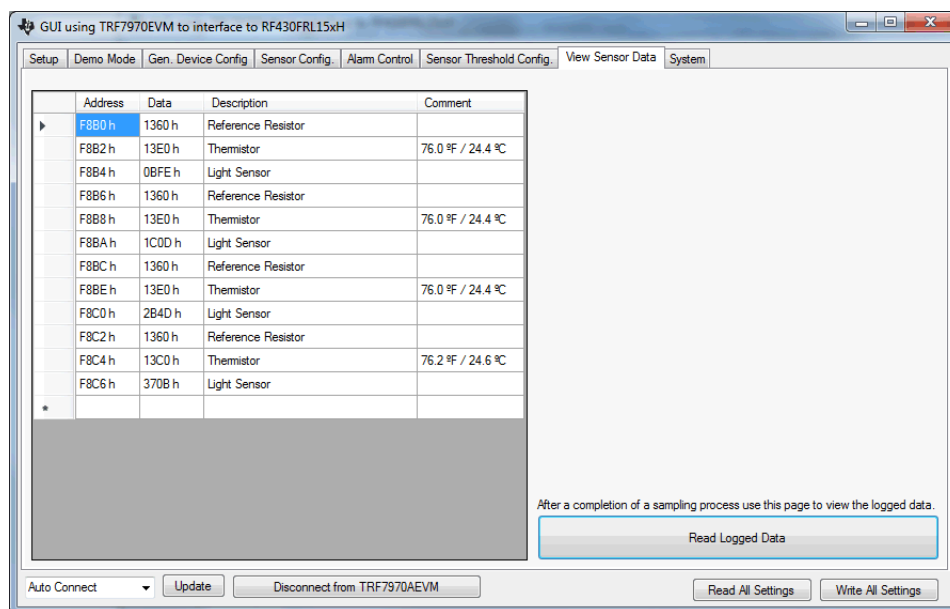

Figure 20. Custom View Data
16. When data is available, go to the "View Sensor Data" tab and click the "Read Logged Data" button. The GUI reads the logged data from the EVM and displays it (see Figure 20). This logged data is not designed to be human-readable. However, one use case of this function is to show the correlation and order of data to the sensor that took that data. In the logged data memory, the sensor that took that sample is not given and must be determined based on the configuration of the settings. However, the GUI shows which sensor is sampled and the expected order.